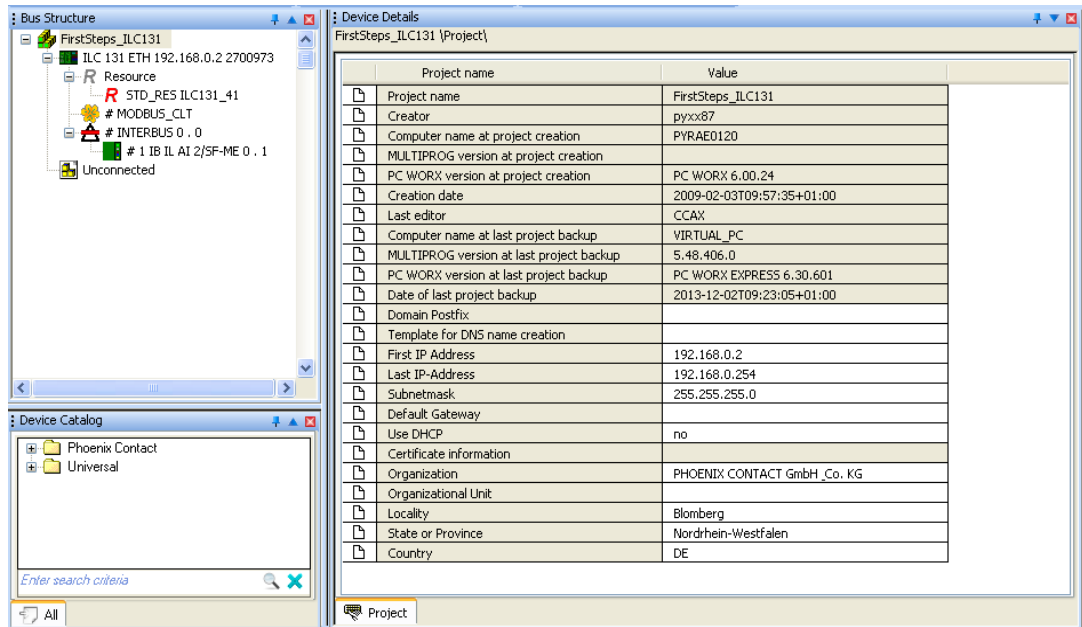
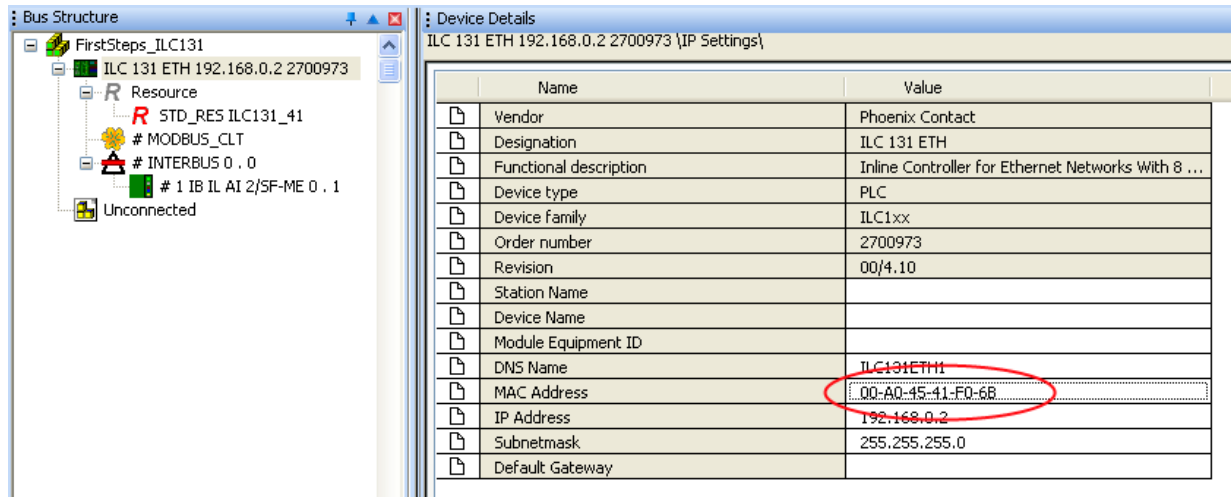

Figure 5-4 Project information after creating a new project
Figure 5-10 Entering the MAC address
To determine whether your network permits the IP settings used in the example project (see Figure 5-4 on page 32), proceed as follows:
If your network does not permit the use of the IP address used in the example project, adjust the settings in the project information accordingly (see Figure 5-4 on page 32).
If any modifications are made to the project information that affect the IP settings for the controller, a warning is displayed. However, the modification is not implemented automatically. When a new project is created, the default settings are specified under "IP Settings" (see Figure 5-4 on page 32 and Figure 5-10 on page 39).
If any modifications are made to the project information that affect the IP settings for the controller, a warning is displayed. However, the modification is not implemented automatically. When a new project is created, the default settings are specified under “IP Settings” (see Figure 5-4 on page 32 and Figure 5-10 on page 39).
- Enter the MAC address of the controller (see Figure 5-10 on page 39). It is printed on the device. It starts with 00.A0.45.